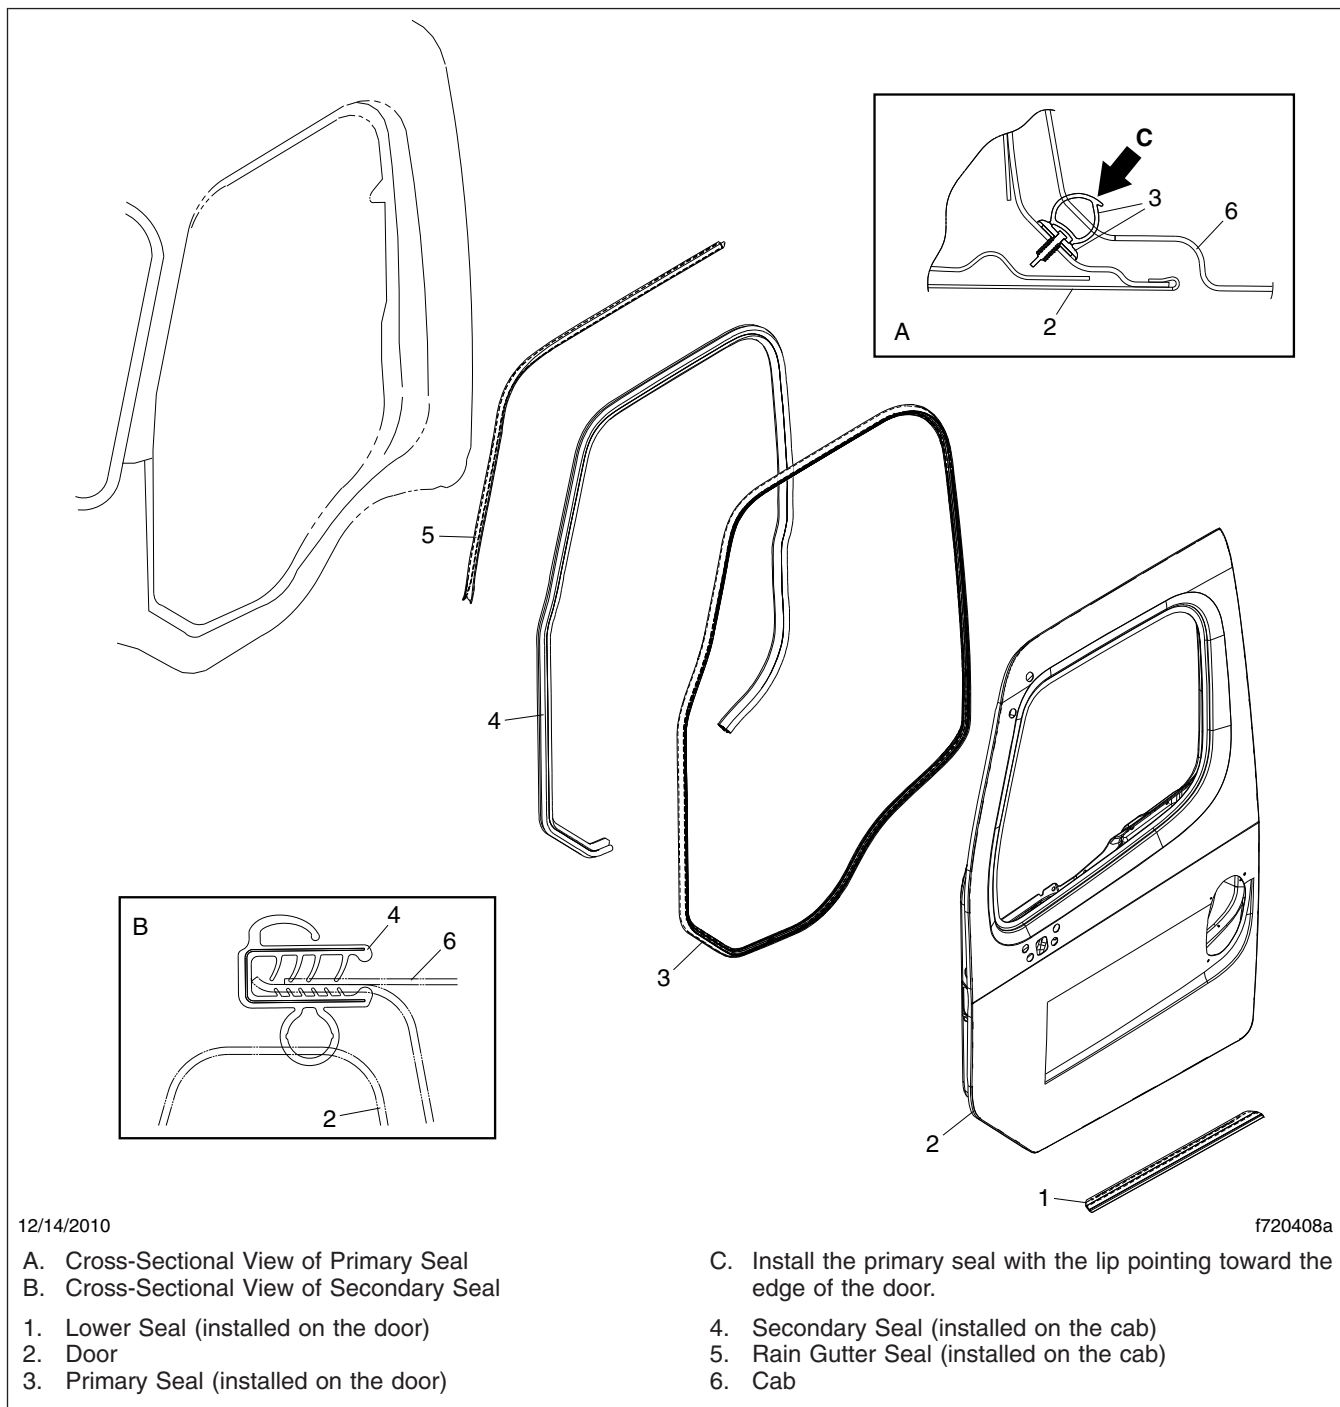

Fig. 1, Door Seals
4. Disconnect the interior lock rod (Fig. 1, item 9) from the door latch assembly.
5. Disconnect and remove the exterior lock rod (item 15), the interior latch rod (item 11), and the exterior latch rod (item 14).
11. Connect the exterior lock rod (item 15), and the interior and exterior latch rods (items 11 and 14).